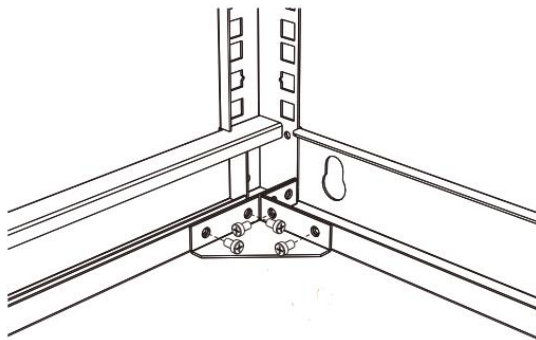

Figure 2
2. Place Corner pieces(④)on the corner of Front Frame(①),Rear Frame(②),Depth Beam(③).There are 8 locations that need to be installed.Secure with 4pcs M5*10 Self-tapping screws(⑧) on each Corner piece(④).(Figure 2).